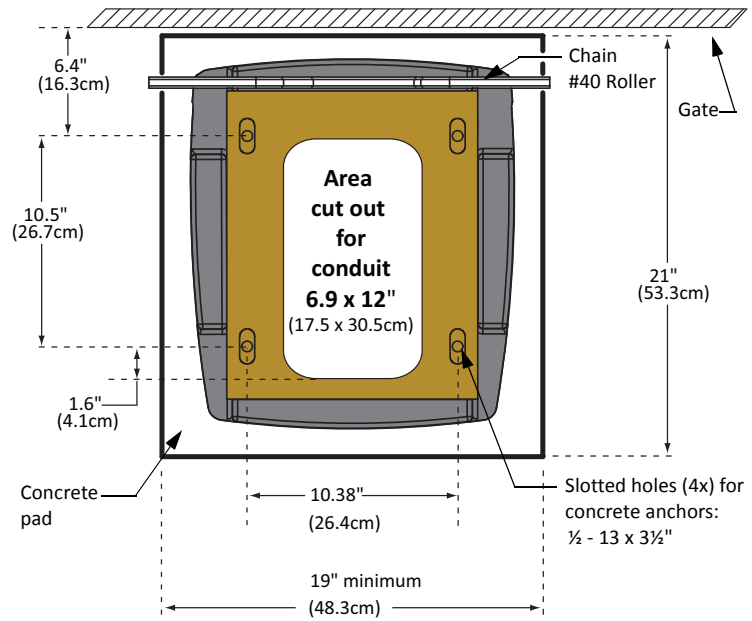
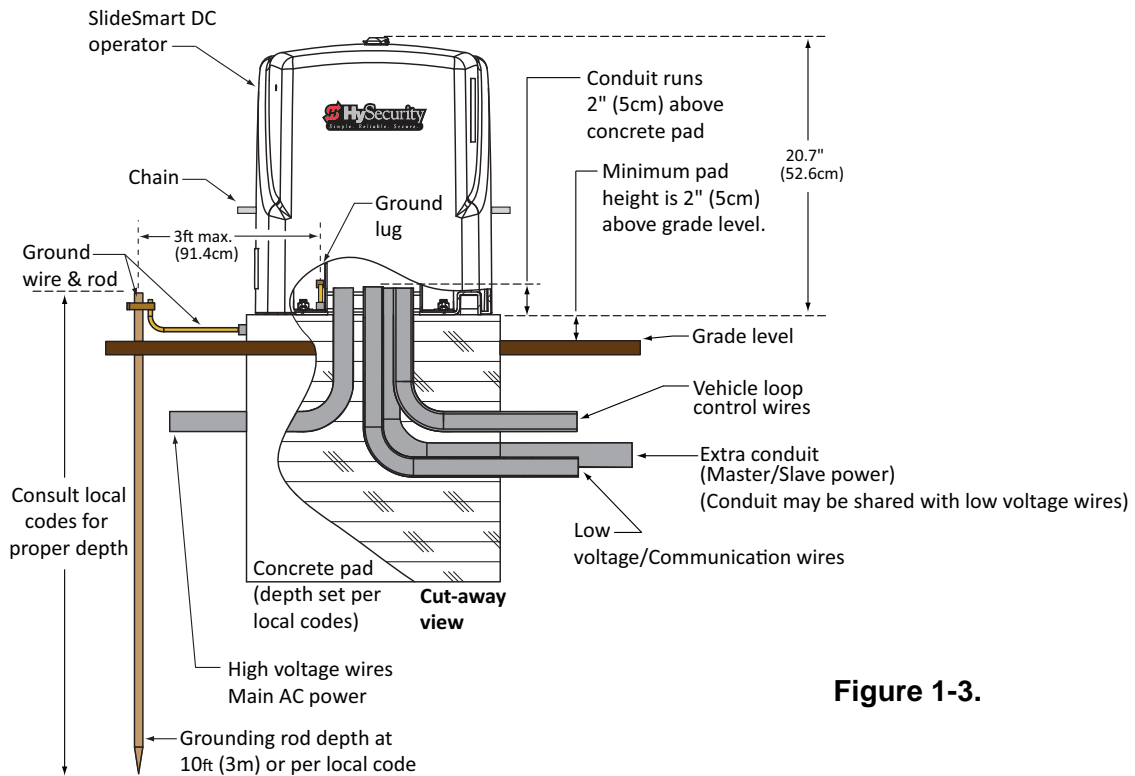

Figure 1-2.
Figure 1-3.
1. Follow the local building codes to identify the frost line and determine the required depth of the concrete pad. HySecurity recommends a minimum 16-inch depth with a minimum 2-inch extension above ground level. Refer to Figure 1-2 and Figure 1-3.
2. Before pouring the pad, consider conduit placement so it fits within the confines of the 6.9 x 12-inch cutout in the SlideSmart base as shown in Figure 1-2. Run separate conduits for:
3. Extend conduit height 2-inches (5cm) above the pad (4-inches (9cm) above ground level). Make sure the concrete forms are square with the gate and the pad is level. The operator footprint, with covers, is approximately an 18-inch square (4.7cm). See Figure 1-2 for the minimum pad dimensions.
- Appropriate dimensions (See Figure 1-2) for SlideSmart installation.
1. Place the operator on the pad to best suit the conduit as shown in Figure 1-2. Use the operator as a template and center it on the pad. The chain path must be parallel with the gate.